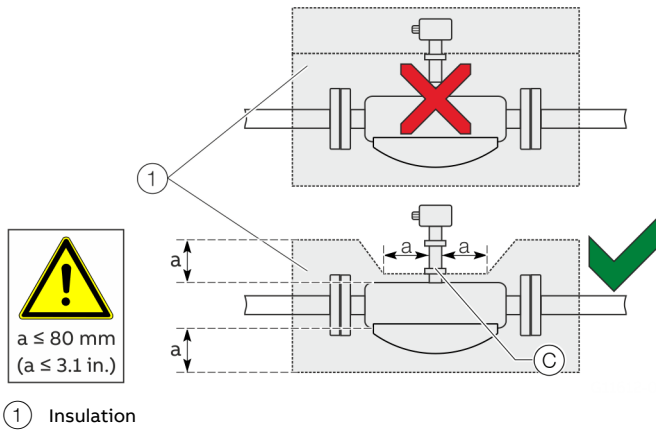

Figure 7: Installation at $T_{\text{medium}} -50^{\circ}\text{C}$ to 205°C (-58 to 400°F)
The sensor may only be insulated in conjunction with the option TE1 'Extended tower length for sensor insulation' or TE2 'Extended tower length – insulation capacity with dual gasket,' as shown in Figure 7.
When operating the sensor in conjunction with heat tracing, the temperature at point ③ (Figure 7) 100°C (212°F) may not be exceeded at any time!